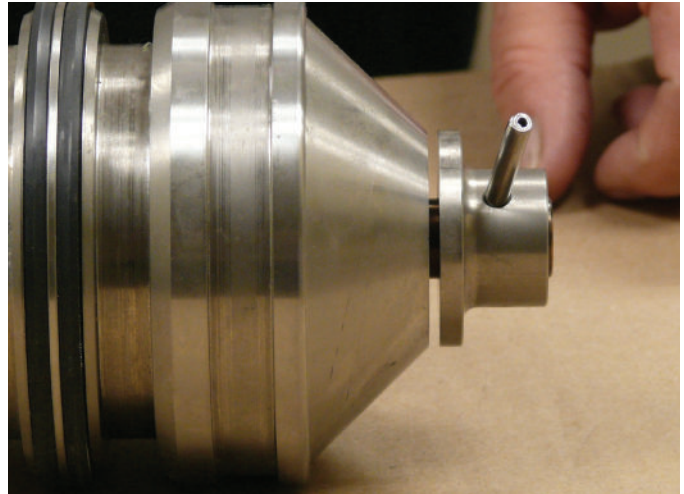

Figure 9-17 Spirol Pin and Lifting Collar
19. Remove spirol pin (Item 5) and lifting collar (Item 3) from shaft. (Figure 9-17)